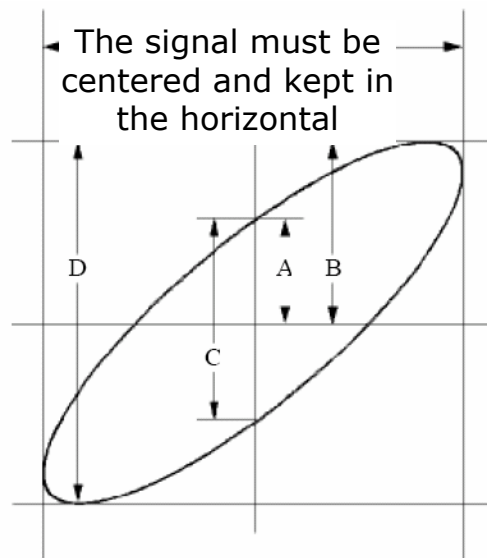

Figure 85. Lissajous Graph.
- 8 With the elliptical oscillogram method adopted, observe and calculate the phase difference (see Figure 85).